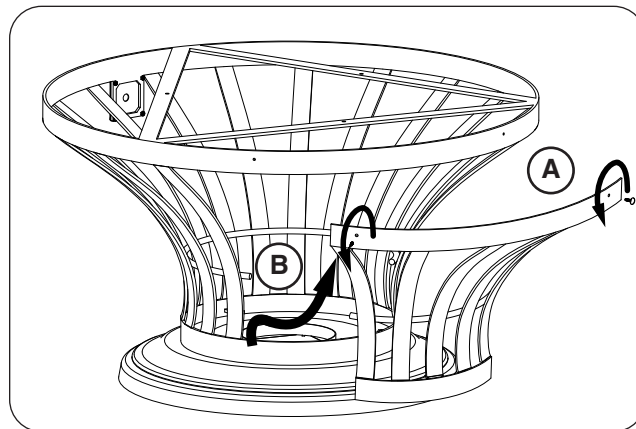

Fig. 30-2 Remove door
3. Remove the storage door by first turning the two thumb screws counter-clockwise, then carefully pulling the door up and outward (see Fig. 30-2). Store in a safe location.